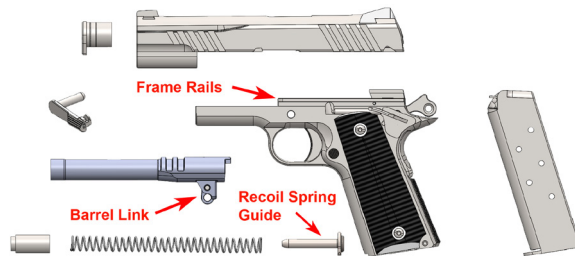

Figure 35
- Figure 35 depicts the separated components after field stripping.